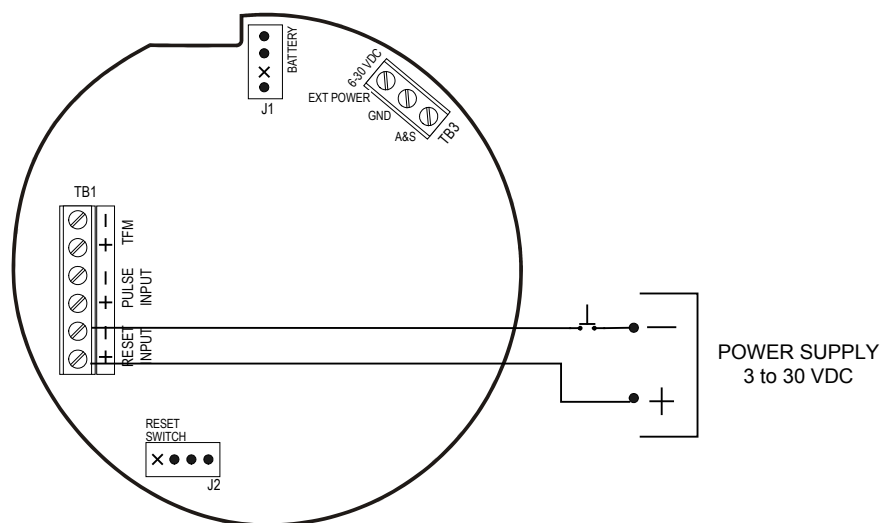
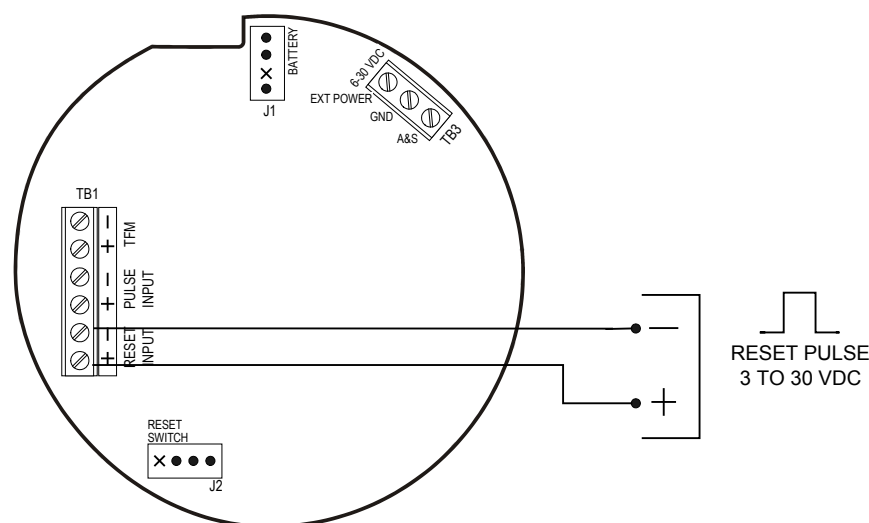

Figure 2.11—Reset input wiring (when power supply and reset switch are in a safe area)
Figure 2.12—Reset pulse input wiring (when pulse generator is in a safe area)
7. Connect wiring for the remote reset input to terminal block TB1, if appropriate. See Figure 2.11, page 29 and Figure 2.12, page 29.
The remote reset input allows the operator to reset the accumulated volume on the MC-III EXP to zero without opening the enclosure. This input is optically isolated. The input is shown connected in two ways, with a power supply and switch in a safe area (Figure 2.11), and with a pulse generator in a safe area (Figure 2.12). The remote reset input can also be controlled with an optional explosion-proof switch mounted in the top of the enclosure. See Explosion-Proof Reset/Control Switch, page A-1, for installation and wiring instructions.